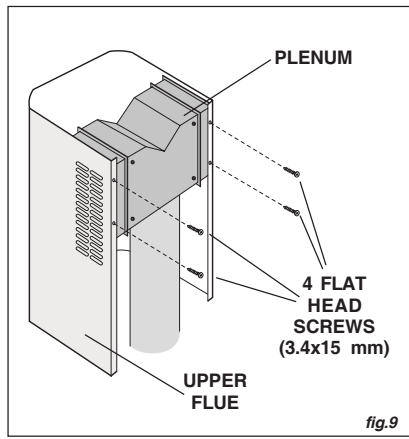

fig.9
10. Secure the recirculation plenum to the upper flue with (4) flat head screws. Fig.9